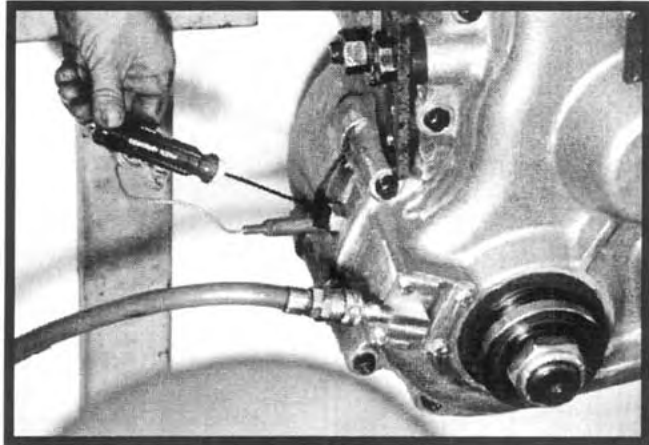

Figure 6.49
32. At this point, it is advantageous to verify the operation of the shift indicator switch. Apply and release shop air (150 psi maximum) to the shift cylinder while observing switch operation with a continuity tester. See Figure 6.49. It may be necessary to rotate the gear train slightly to permit clutch engagement.